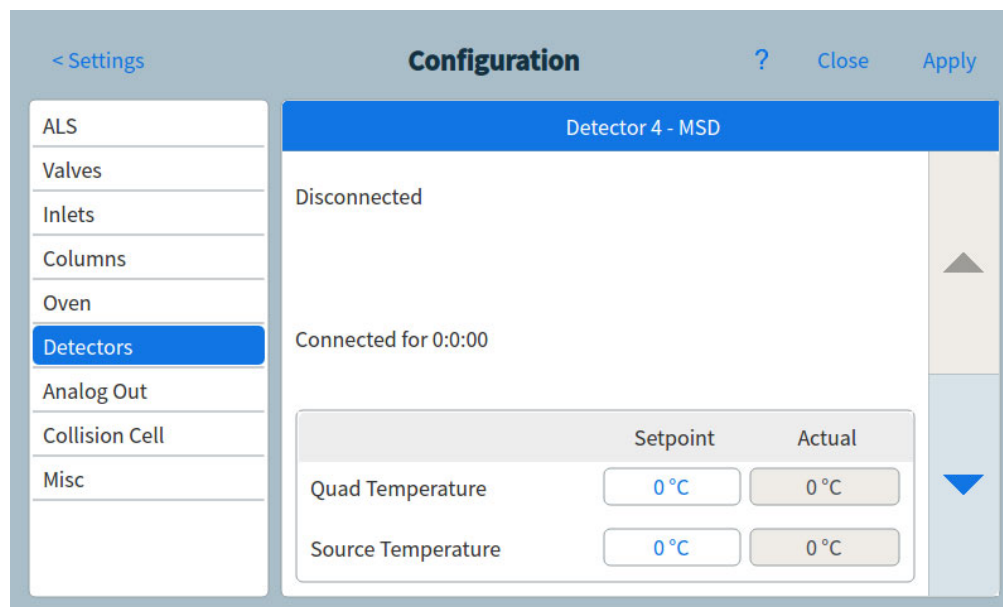

Figure 63. Detector MSD settings page
- 1 Select **Settings > Configuration > Detectors**. See Figure 63.